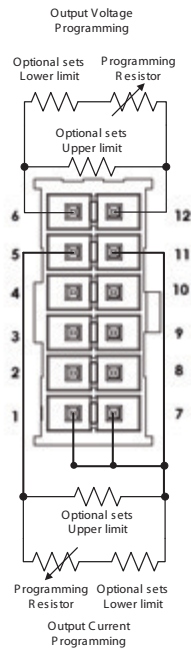

Fig.6-2: J1-Remote Resistor Programming Connection
1. For Resistor Analog Programming wiring refer to Fig.6-2.